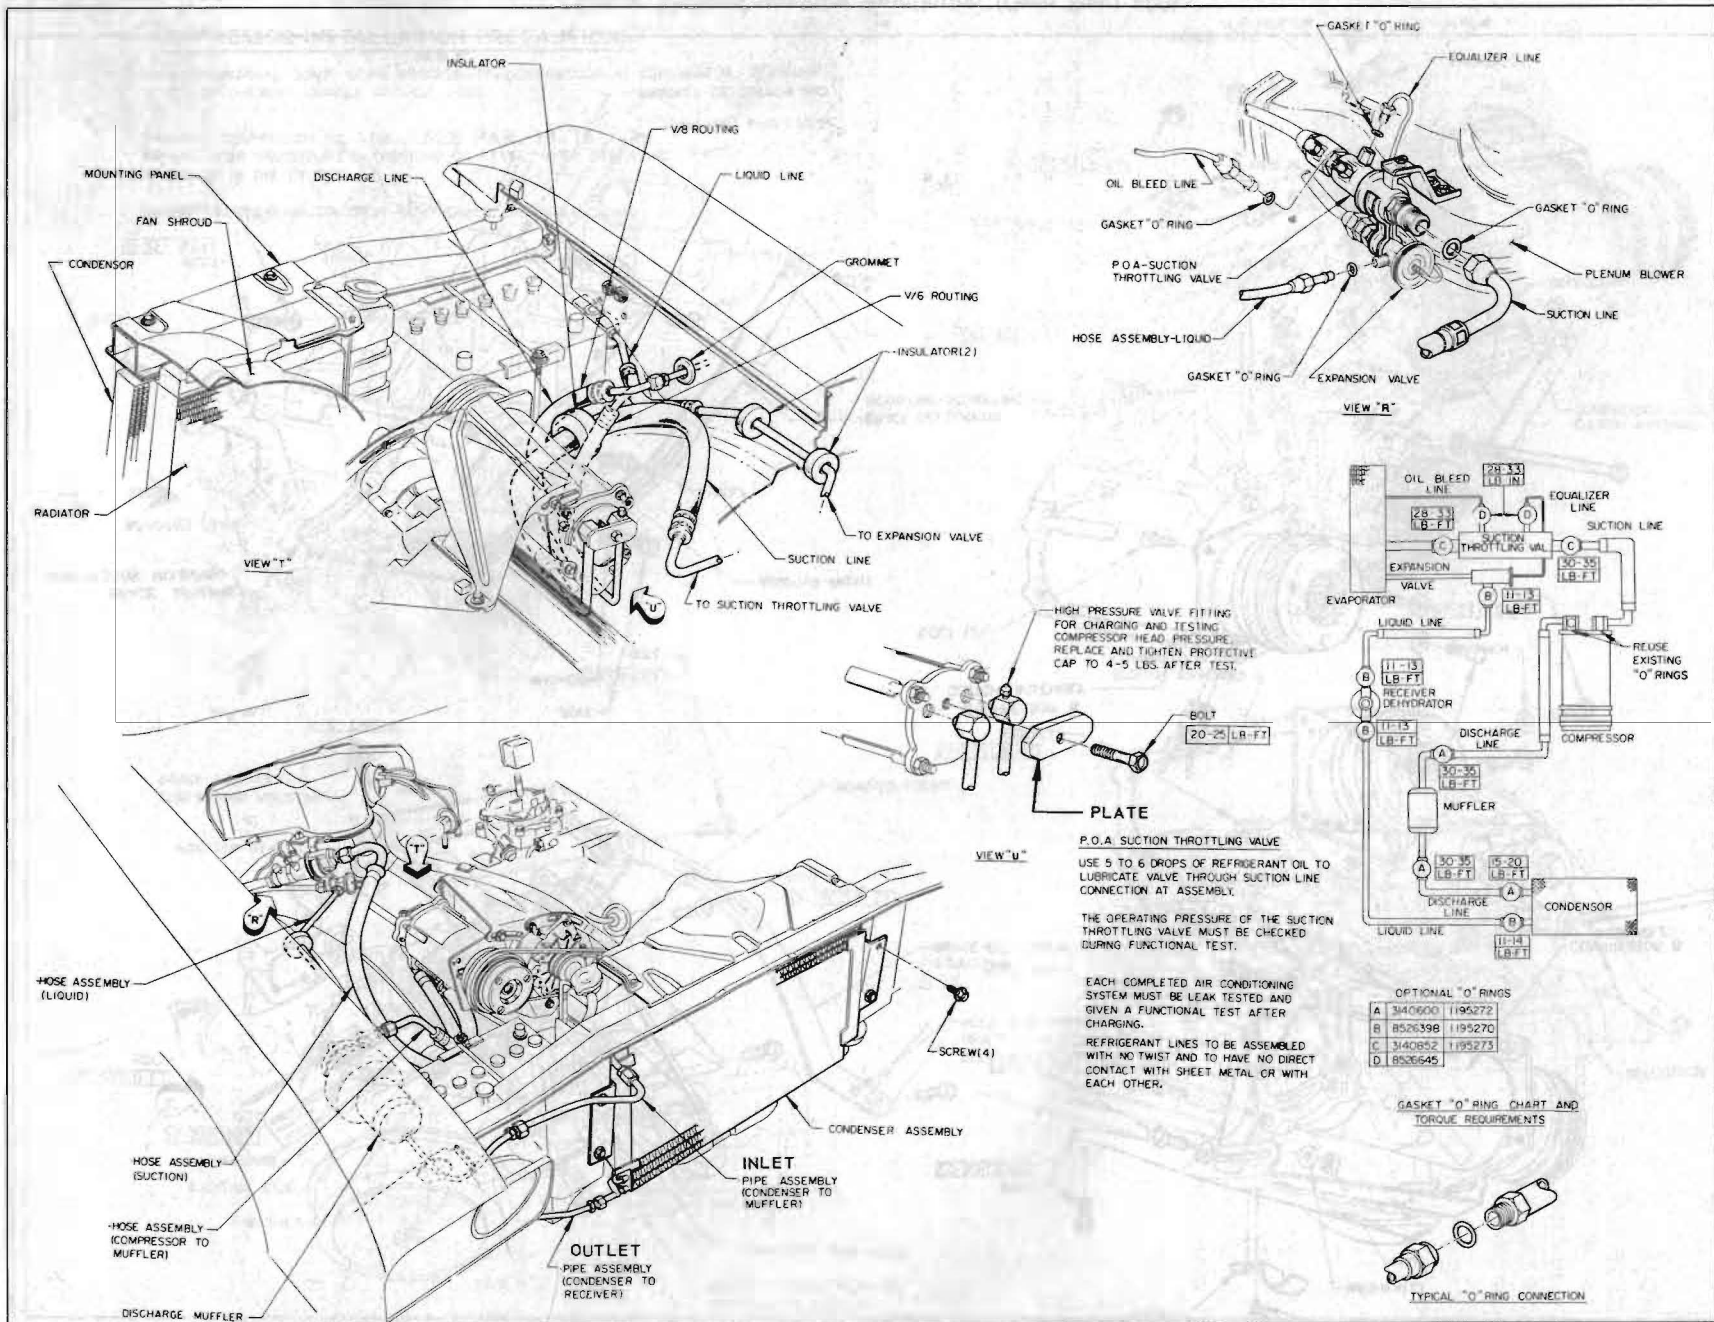

Figure 13-37—Refrigerant Line Installation (43-44000 Series)
3. Remove bolt and plate holding suction and discharge lines into rear head (see Figure 13-37). Disengage both lines from compressor and tape closed openings
3. Remove bolt and plate holding suction and discharge lines into rear head (see Figure 13-37). Disengage lines from compressor and tape closed openings in lines and compressor.
4. Check that compressor lines are properly aligned and do not have any direct contact with sheet metal or each other (see Figure 13-37).